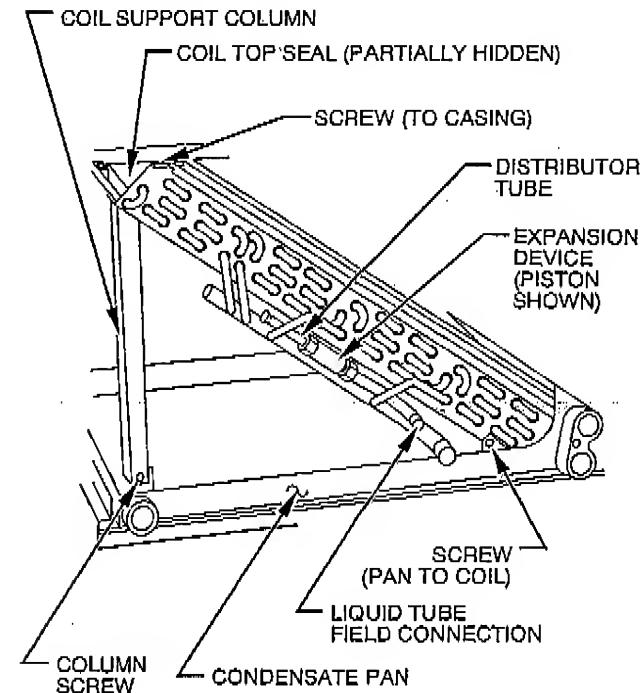

Fig. 15—Slope Coll Component Location
8. Place assembly on a flat surface. Remove 2 screws securing coil support columns to pan. (See Fig. 15.)
12. Remove coil top seal. (See Fig. 15.)